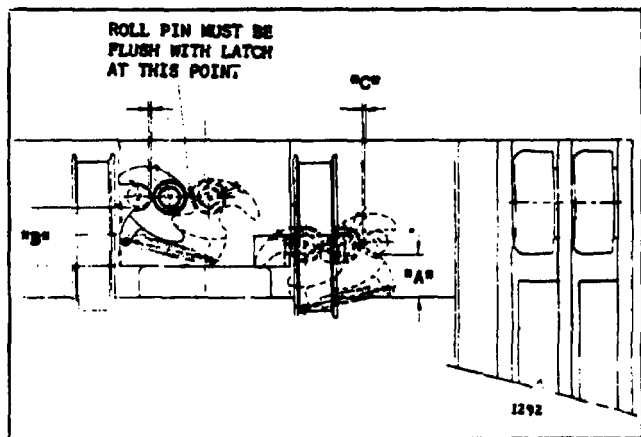

Figure 27.
2. If latches have been removed, make sure these are installed in the splines as they were originally. Retaining pins must not interfere with latch operation, and latches must be tight on the shafts. Refer to "C", Figure 27.
5. There should be 3/32 plus or minus 1/16 inch vertical clearance between the lugs on the outer and the intermediate uprights and their respective latches, with uprights collapsed. Refer to "C", Figure 27. If not as specified, transpose load roller shims as necessary.
6. After installation and with upright fully collapsed, measure the distance from the bottom of the upper crossmember on the inner upright. The distance should be 1-11/32 inches. Refer to "A", Figure 27. If not as specified, add or delete shims under the resting pad of the inner upright. To decrease the distance, add shims. To increase the distance, remove shims.
7. Measure and adjust, if necessary, the distance from the bottom of the lug at the top of the outer upright to the bottom of the upper crossmember of the intermediate upright. The distance should be 1-7/8 inches. Refer to "B", Figure 27. If not as specified, add or delete shims under the intermediate upright resting pad, as necessary.